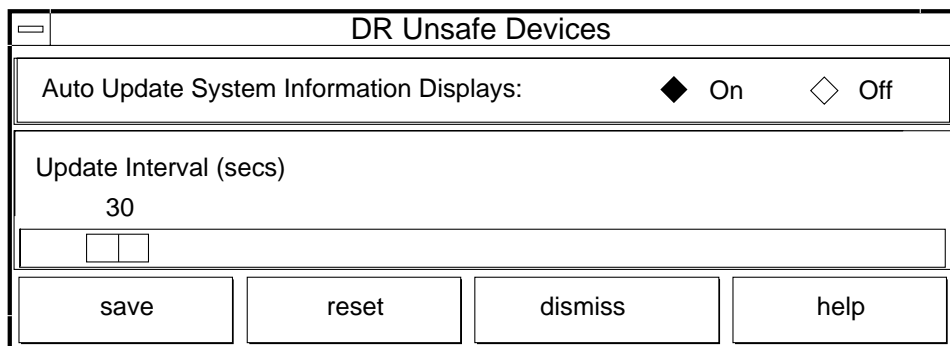

FIGURE 3-7 DR Properties Window
1. Click the Properties button in the Dynamic Reconfiguration window (FIGURE 3-7).